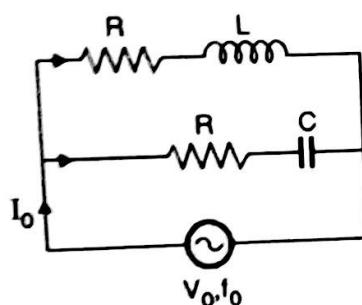

Fig. Q. 2.24
**Q. 44** What is the condition for resonance for the following circuit ? (Refer Fig. Q. 2.24)